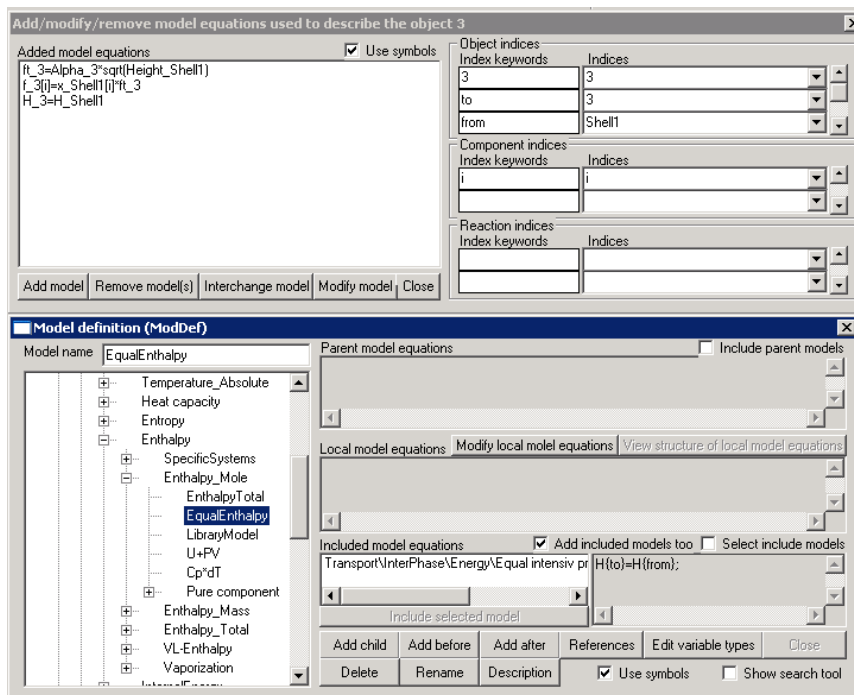

Figure 25: Addition of equation relating stream and shell enthalpies.
Step2: Relate the stream 3 enthalpy to the tank liquid enthalpy – double click on stream 3 and select “other models”. Select the model in way “Rootmodel” -> “Quantity” -> “Enthalpy” -> “Enthalpy_Mole” -> “EqualEnthalpy” (fig. 25).